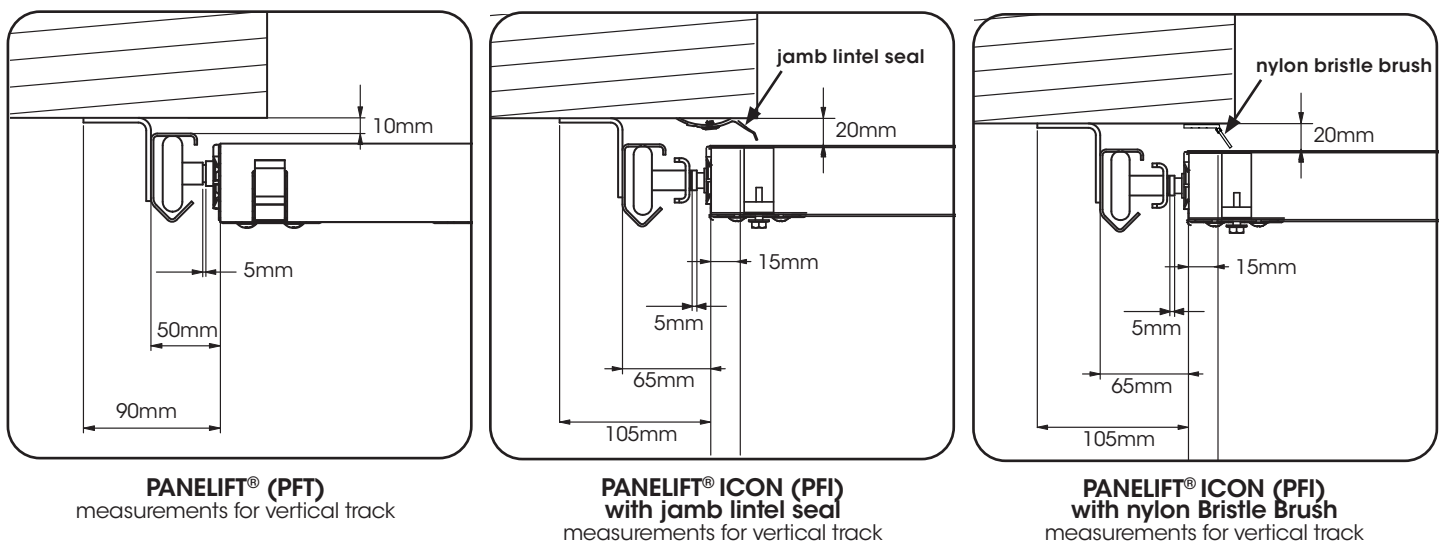

Fig: 3.1.2
NOTE: The small angle jamb brackets and the short top track angle, provide adjustable slots to move the track out from the wall. Take note of Fig 3.1.2 for measurements.
- b) Ensure to follow the measurements as shown in Fig 3.1.2 to set out the placement of the track and brackets.
- b) Check that the wheels are sitting in the "V" groove of the vertical track on each side and there is sufficient clearance between the panel and the track as per Fig 3.1.2.
tip Check that the clearance in the vertical tracks as per Fig 3.1.2 is also in the horizontal tracks